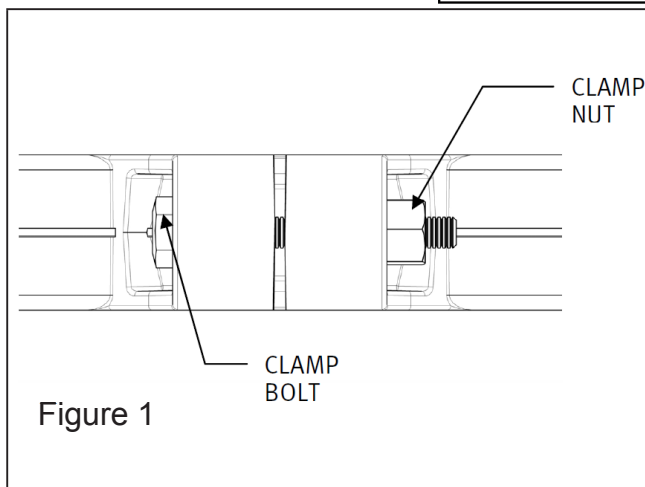
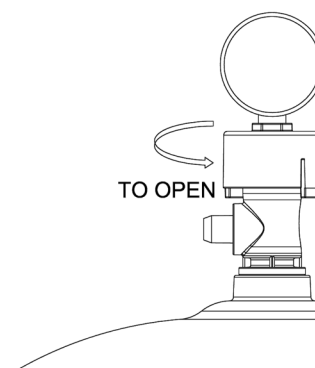

Figure 1
Figure 2
1. Use **ONLY** Original components; Non-Original clamp components may fail in use and cause explosive component separation. Verify that upper and lower filter bodies are properly secured with the filter body clamp. Never rely on hand tightening the clamp nut to the clamp bolt. Using a $\frac{3}{4}$ " socket on a torque wrench, torque clamp nut to clamp bolt to 150 inch-lbs. (See Fig 1) Verify that the filter manual air relief body is in the LOCK position, and no filter components are missing, damaged or not genuine Intermatic components. (See Fig 2)
4. Place the manual air relief valve in OPEN position. (See Fig 2)